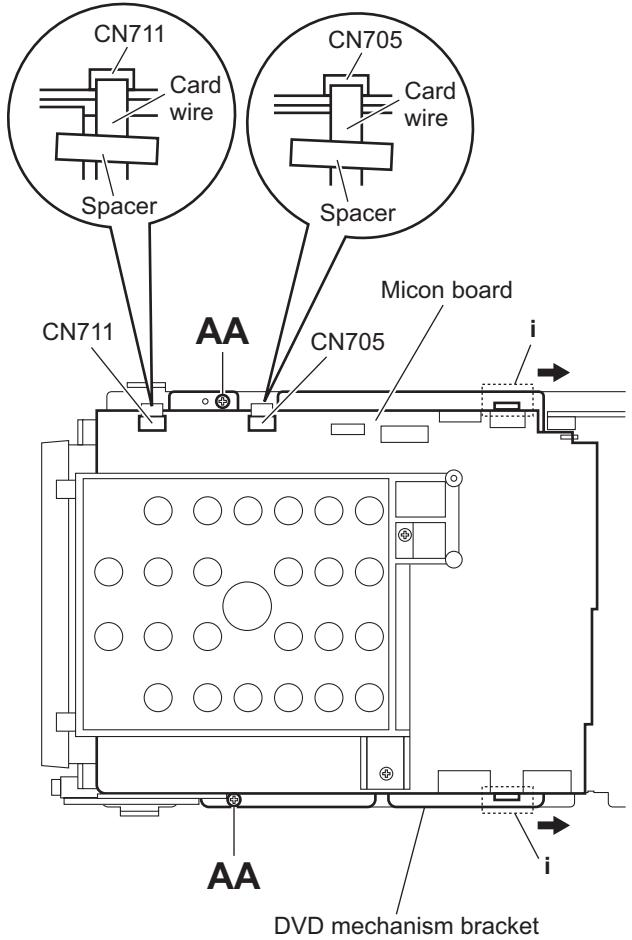

Fig.21
(See Figs.21 and 22)
- (1) From the top side of the main body, disconnect the card wires from the connectors (CN705 and CN711) on the micon board. (See Fig.21.)
- (2) From the left side of the main body, remove the spacers fixing the card wires. (See Fig.21.)
- (3) From the top side of the main body, remove the two screws **AA** attaching the DVD mechanism bracket. (See Fig.21.)
- (4) Move the DVD mechanism bracket in the direction of the arrow to release the claws **i** and remove the DVD mechanism bracket. (See Fig.21.)